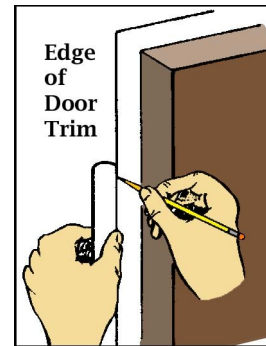

Figure 3
- **Step 6** Extend the fin and lug alignment lines using the trim around a door, as shown in Fig. 3, or using a piece of brass angle stock, as a straight edge. The fin alignment lines should be 6" long, measured from the bottom edge of the tube. Mark these lines at this location. The lug alignment lines are 1" long, with the top of the lug 3.5" from the bottom of the tube.